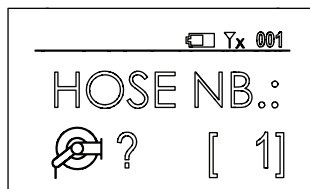

Fig. 4
2. Next the configuration screen is shown automatically (Fig. 4). The unit remains waiting for the hose reel number that you want to associate.